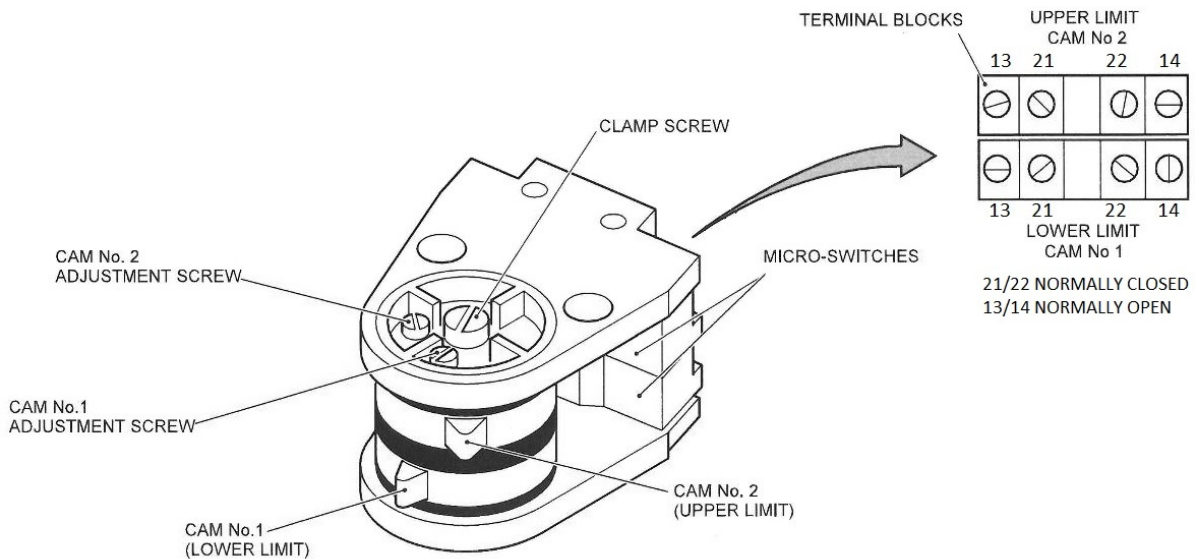

Figure 12 – Setting the Upper Limit Switch – Rotary Limit Switch
- Remove the plastic cover from the rotary limit switch to gain access to the 'Cam No2 Adjustment Screw'. This is for the upper limit adjustment (Figure 12).
- Remove the plastic cover from the rotary limit switch to gain access to the 'Cam No1 Adjustment Screw' which is for the lower limit adjustment (Figure 12).